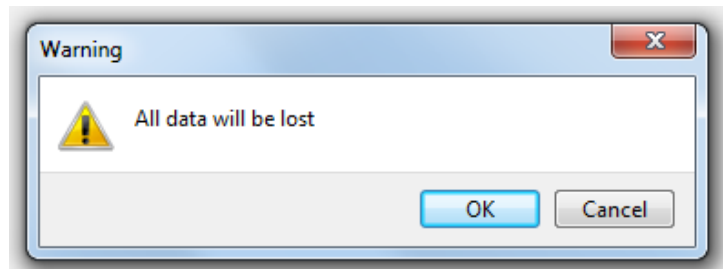

Fig. 21 Data loss warning.
- Select: **OK** to start uploading of the update (Fig. 21).